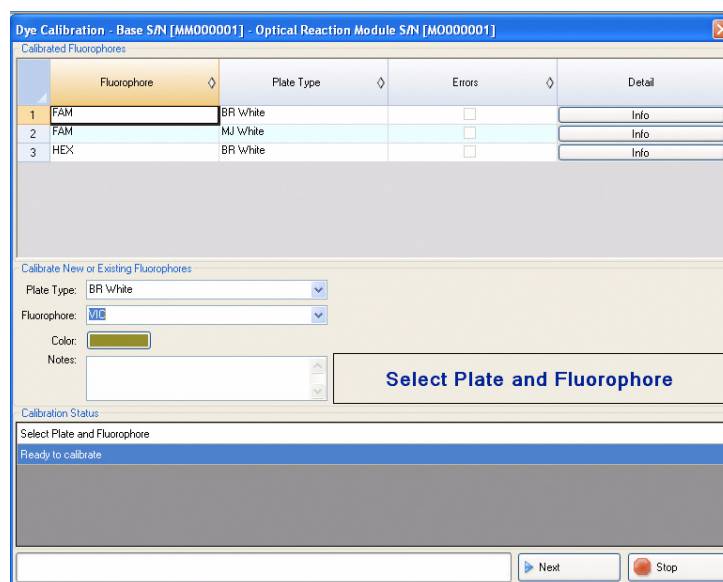

Figure 91. Dye Calibration window.
2. Select **Tool > Calibration Wizard** to open the Dye Calibration window and calibrate new dye and plate combinations (Figure 91).
Figure 91 shows an example of the Dye Calibration window.